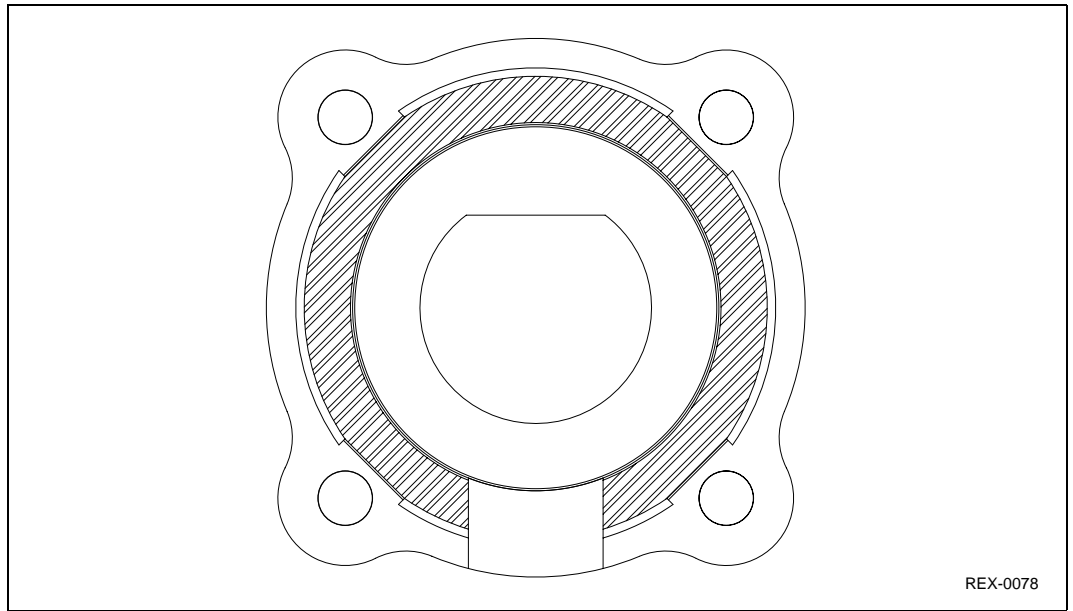

Figure 7-27: *Unworn NI-HARD Bearing Block and Sleeve*
Figure 7-27 shows a **NI-HARD** bearing block and sleeve in an unworn condition. The **NI-HARD** bearing block in the illustration is oriented as it should appear within the elevator.
6. Slide **NI-HARD** bearings and foot shaft assembly into the take-up frame. Making sure the bearing block is oriented properly before installing in frame. See Figure 7-27.